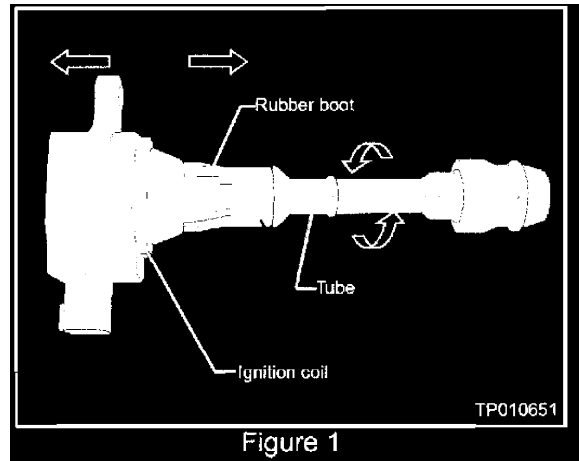

Figure 1
- A. Pull the rubber boot away from the ignition coil. Then twist and pull the ignition coil tube from the ignition coil to separate them (see Figure 1).